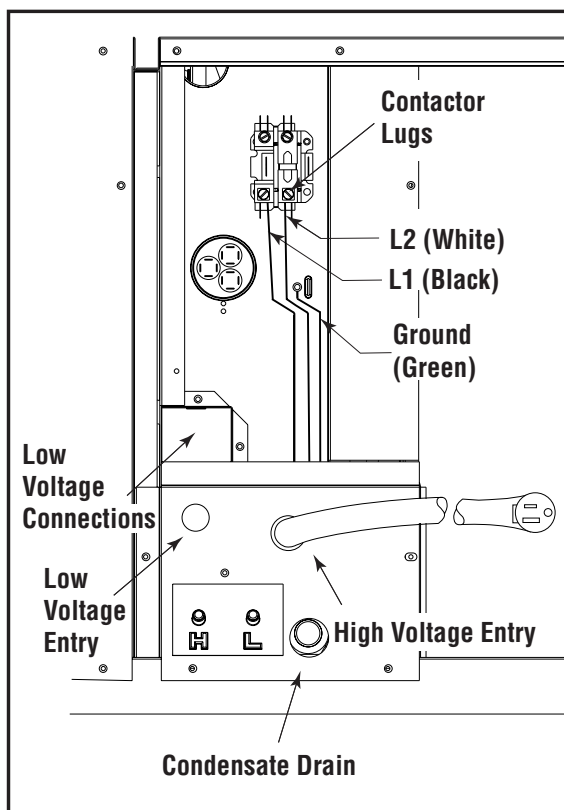

Figure 4. Power Entry and Hook Up
- c. Extend the power cord leads up into the control panel and connect L1 (Black) and L2 (White) directly to the contactor lugs provided. (See Fig. 4)
- d. Ground the air conditioning unit by attaching the power cord ground wire (Green-w/eyelet) to the unit using the green grounding screw provided in the control panel. (See Fig. 4)
- a. Low voltage wiring from the indoor furnace and thermostat will be located under the home near the branch circuit receptacle and cover. Route the 24V control wires through the low voltage sealing grommet. (See Figure 4)
- b. Connect the low voltage control wires to the leads in the low voltage compartment as shown in Figure 4 and 5.